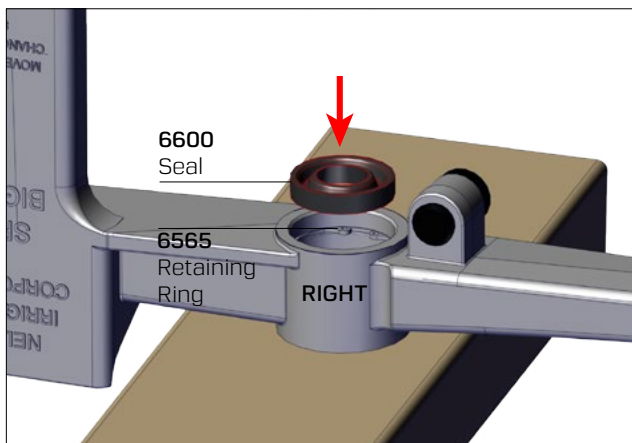

Fig. 14.
- C. Remove the **#13908**, turn drive arm over and press the **#6600** seal into the RIGHT drive arm hub in the same manner as step 2-B (see Fig. 14) until the seal is flush with the face of hub or bottoms out on the retaining ring.